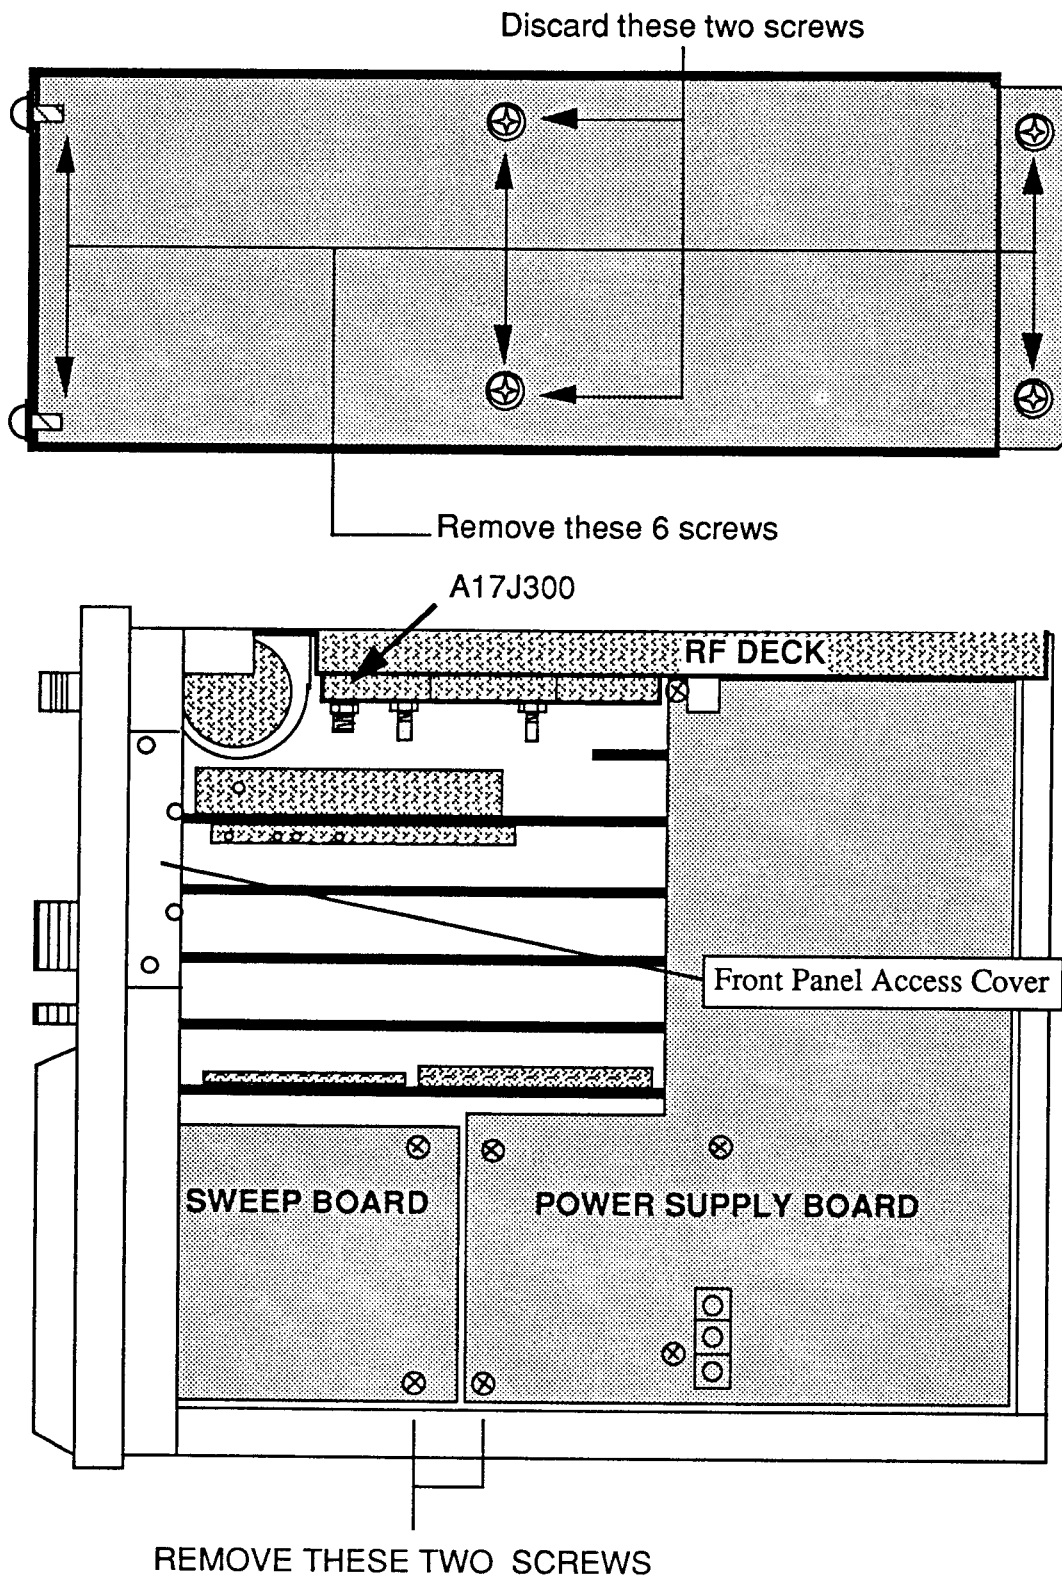

Figure 4.
- (a) Remove the left side instrument chassis. Refer to Figure 4 for screw locations.
- (j) Remove the front panel access cover shown in figure 4.